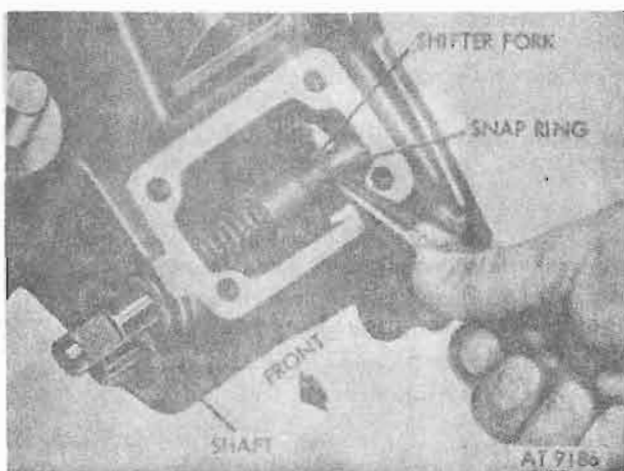

Figure 8-53. Shifter fork rear snapping.
c. Move shifter shaft forward and remove rear snapping (fig. 8-53).
f. Install clutch on shaft and then position shifter fork in groove of clutch. Refer to figure 8-53.